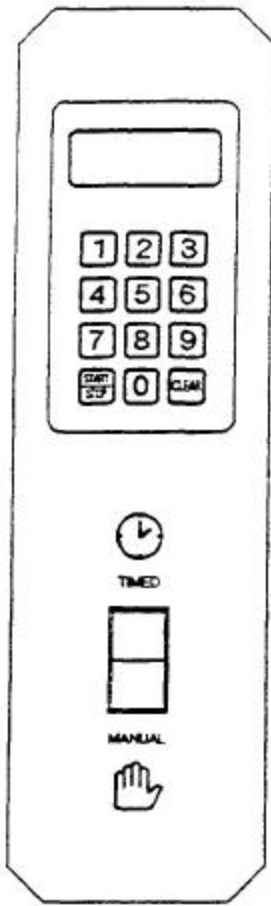

Figure 2-16. Key Pad Control Panel
5. Turn off electrical power to the SteamCraft 10, at both the panel ON/OFF switch (Figure 2-16), and the main disconnect switch (Figure 2-8, Recommended Electrical Layout).
8. Turn off electrical power to the Steam Craft 10, at both the panel ON/OFF switch (Figure 2-16), and the main disconnect switch (Figure 2-8, Recommended Electrical Layout).
**The Key Pad Control Panel** is shown in Figure 2-16, page 37. The Timer Test for the key pad control panel starts on page 37.